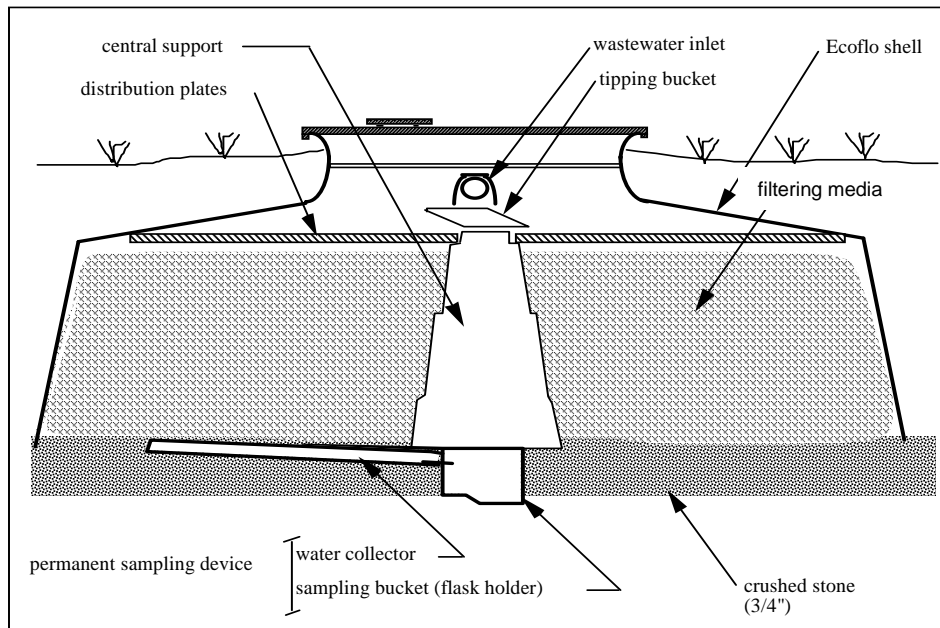

Figure 1: Permanent sampling device installed underneath the Ecoflo® Coco Filter filtering media
7. Access to the permanent sampling device by unscrewing the plug located on the top of the central support (figure 1).
5. Remove the tipping bucket and open the treaded cap of the central support access for sampling (figure 1).